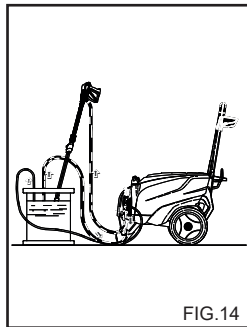

FIG.14
**BEHANDLING MED FROSTSKYDDSMEDEL. (fig. 14)**